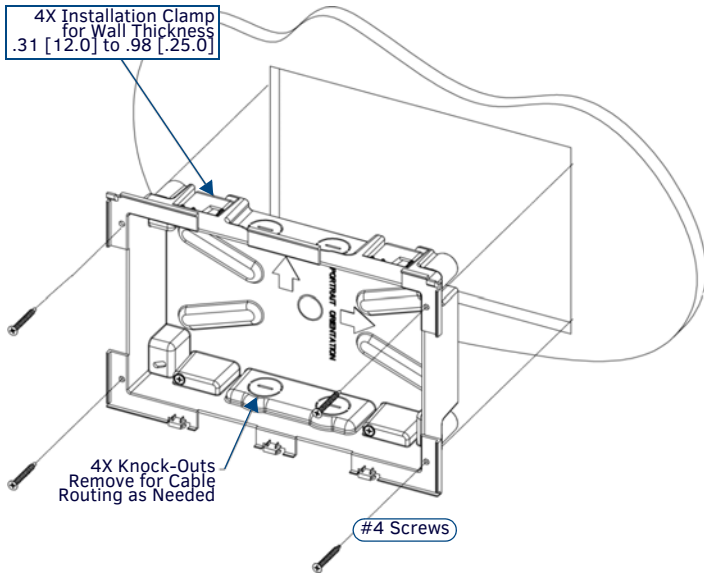

FIG. 4 MXD-1000 BACKBOX INSTALLATION (LANDSCAPE)
- Thread the incoming cables through the surface opening (FIG. 4). Leave enough slack in the wiring to accommodate any re-positioning of the panel.
- For additional strength, #4 mounting screws (not included) may be secured via mounting circular holes located at the left and right sides of the MXD-1000 (FIG. 4). In order to prevent damage to the touch panel, make sure that these are flush with the Backbox.